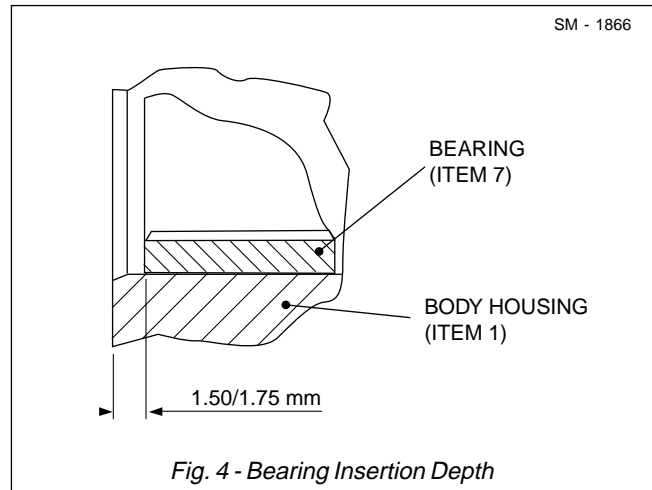

Fig. 4 - Bearing Insertion Depth
Note: Ensure bearings (7) are pressed to insertion depth indicated in Fig. 4.
Numbers and letters in parentheses refer to Fig. 1. Refer to Fig. 4 for hydraulic schematic of the body control valve operating in the 'Float' position.